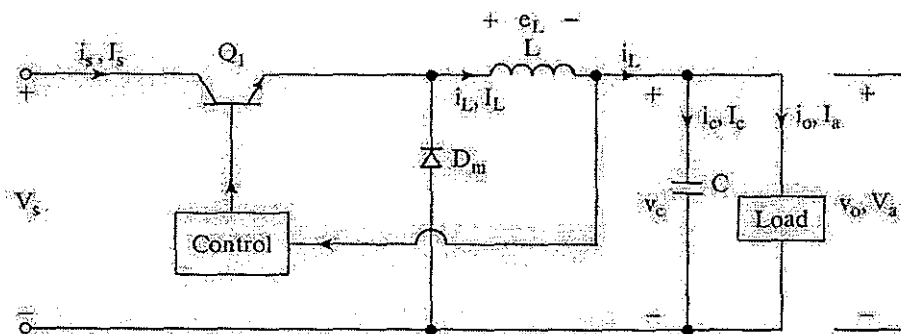

Figure 3.1
- (b) Figure 3.1 shows a type of DC-DC converter circuit. Referring to this figure, answer the following questions: